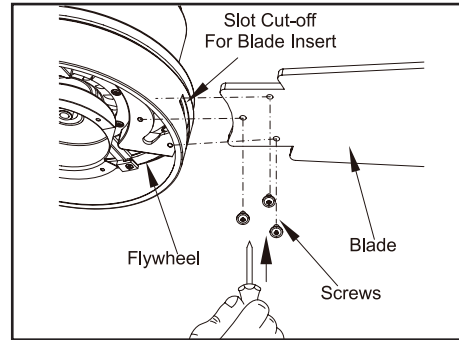

Figure 12
1. Attach the blade to the the fan motor assembly, align the screw holes in the blade with the screw holes above and under the motor assembly and secure screws. (Figure 12)